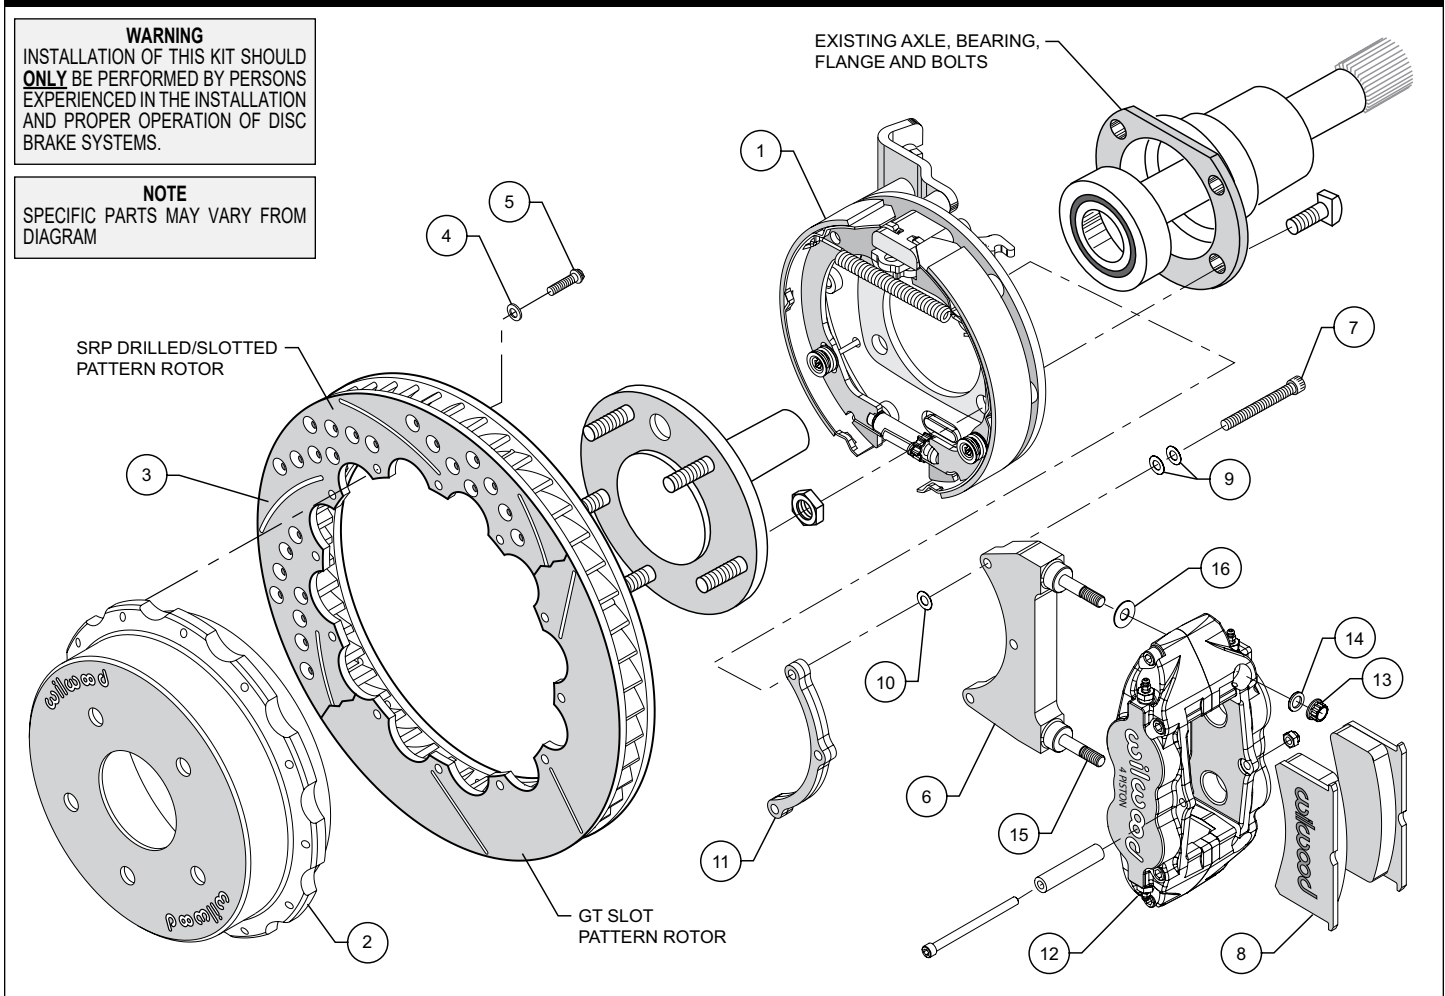

Figure 1. Typical Installation Configuration
NOTE: Numbers in parenthesis refer to the parts list and Figure 1 on the preceding pages.
- NOTE:** Please reference the caution statement at the beginning of the assembly instructions. The caliper mounting bracket assembly (6) should be installed first with clean, dry threads on the mounting bolts (7). Install the bracket from the rear side of the bracket kit assembly (1) by sliding bolt (7) through two flat washers (9), bracket (6), shim washer (10) and finally through the spacer (11), see Figure 1. **NOTE:** End of bolt should not exceed inside face of insert. The bracket must tighten squarely against the back side of the bracket kit assembly (1). Inspect for interference from casting irregularities, machining ridges, burrs, etc. Use one thin shim (10) between the bracket (6) and spacer (11) during initial trial fitting.
- Install one washer (16) over each pre-installed stud (15) on the radial mount bracket (6). Slide the caliper (12) in place over the studs and rotor, then install the washer (14) and lock nut (13) to hold the caliper in place. Snug the lock nuts (13) and check that the rotor (3) is centered in the caliper (12). Add or subtract .015" shims (10) as necessary between the caliper mounting bracket (6) and the spacer (11) to center the caliper (12).
- Remove the caliper center bridge pad retainer bolt, nut, and tube from the caliper. Slide the brake pads (8) into place. They should install easily without interference. Check that the outside radius of the brake pad is aligned with the outside diameter radius of the rotor face. Add or subtract shims (16) between the caliper (12) and mount bracket (6) to gain the proper alignment. Reinstall the center bridge pad retainer tube, bolt, and locknut. The locknut should be snug without play in the bolt or tube. Be cautious not to over tighten.
- Adjust the parking brake shoes outward (using a drum shoe adjustment tool available at your local auto parts store) while spinning the hat (2) until a slight drag is felt against the hat/drum. Remove the lug nuts that were holding the hat/rotor in place. Install the wheel and lug nuts. Check to see that the wheel rotates freely without interference.
- Once all clearances have been checked, remove the wheel, caliper, hat/rotor from the bracket kit assembly (1). Secure the caliper mounting bracket (6) to the bracket kit assembly (1) using red *Loctite*[®] 271. Torque bolts (7) to 180 **in-lb**. Reinstall the hat/rotor assembly and again use lug nuts to hold it in place. Lubricate caliper mounting studs and nuts with lightweight oil, reinstall the caliper, torque the caliper nuts (13) to 30 ft-lb.
- NOTE:** Clevis and cable kits which attach to the parking brake assembly are not included in the Wilwood parking brake kit. Wilwood offers a generic style parking brake cable kit, P/N 330-9371 for this application which can be ordered separately from your local Wilwood dealer or by calling Wilwood customer service at (805) 388-1188.